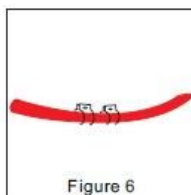

Figure 6
- a. Fix the two CO₂ hose clamps on the red CO₂ tube (See Figure 6).